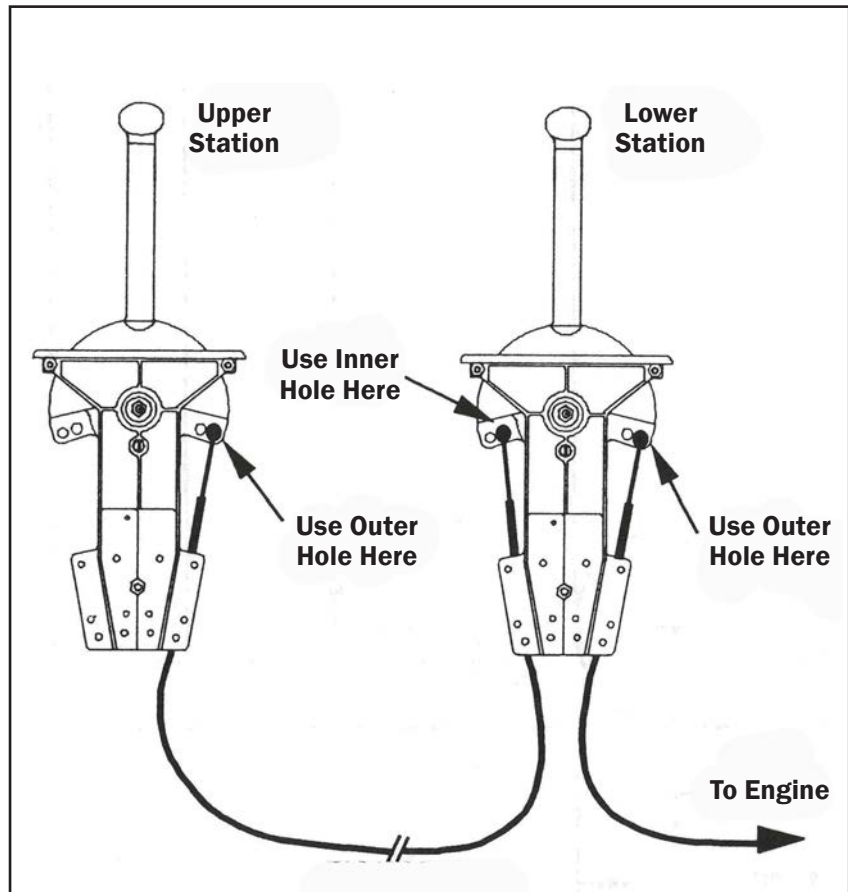

Figure 4.
*These cables must be attached to the innermost hole on the control arms. See Figure 4.*